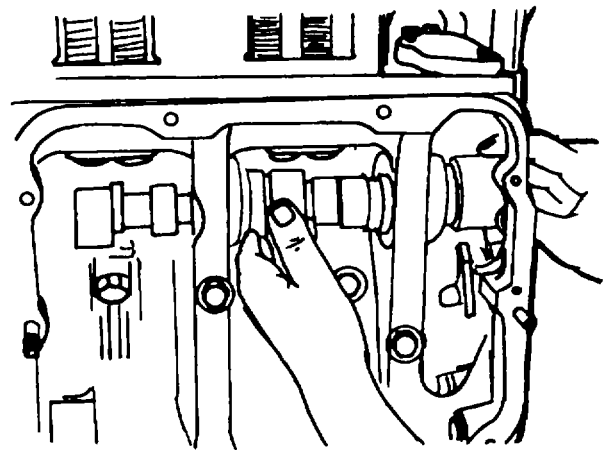

Figure 5-81. Installing Camshaft
2. Install the camshaft from the front (opposite the flywheel end) into the bearing bores (figure 5-81).